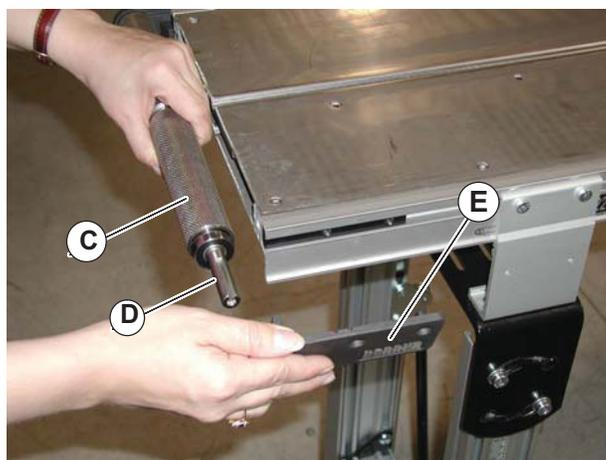

Figure 5
6. Insert the new drive pulley (Figure 5, item C) into the head plate on the opposite side.
7. Install the second head plate (Figure 5, item E) on the drive shaft corner.